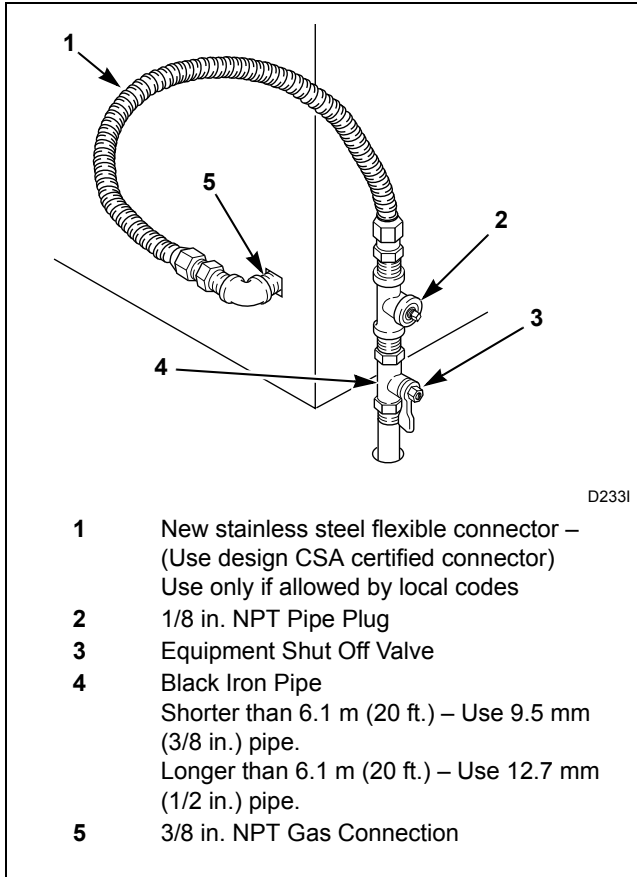

Figure 5
**NOTE: When connecting to a gas line, an equipment shut-off valve must be installed within 1.8 m (6 feet) of the dryer. An 1/8 in. NPT pipe plug must be installed as shown for checking inlet pressure. Refer to *Figure 5*.**